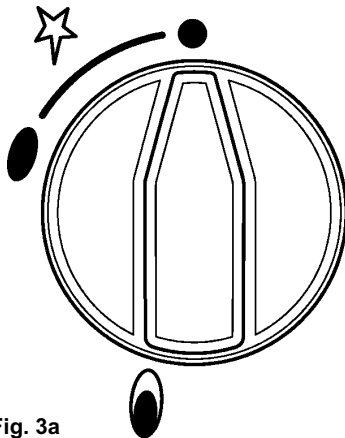

Fig. 3a
2. **To light the appliance** (Fig 3a): At the OFF (●) position push the upper control knob as far as possible and still pushing in **slowly** turn anti-clockwise to the ignition position (★) to light the burner. Turning the control knob slowly allows gas to enter the burner ready for ignition. Keep the knob pushed in for 10 seconds and the burner should remain alight. If not, repeat the sequence.